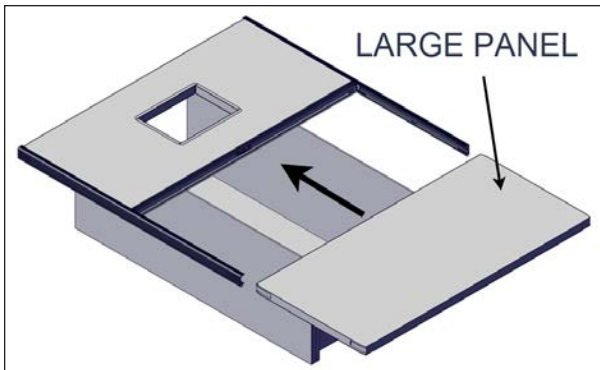

FIGURE 41: INSTALL LARGE PANEL INTO THE C-CHANNELS
5. Slide the large panel (approx. 47" x 96" [119 cm x 243 cm]) into the C-channels. Ensure the I-beam has slid over the panel on both the bottom and top side (Figure 41).